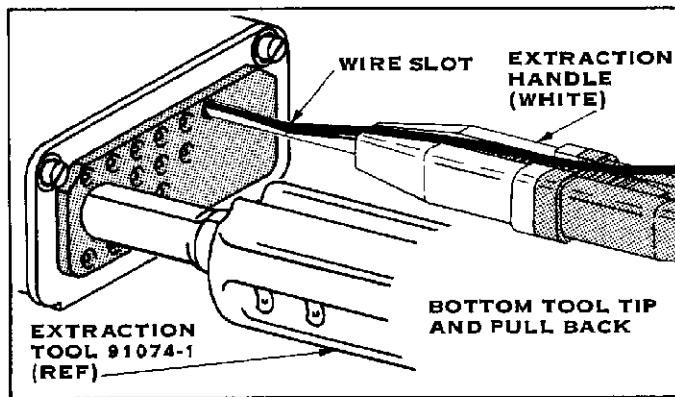

FIGURE 3
Use this tool as follows: (See Figure 3)
4. Hold the Wire against the Tool Handle. Pull the Tool and Contact straight out the back of the cavity. See Figure 3.